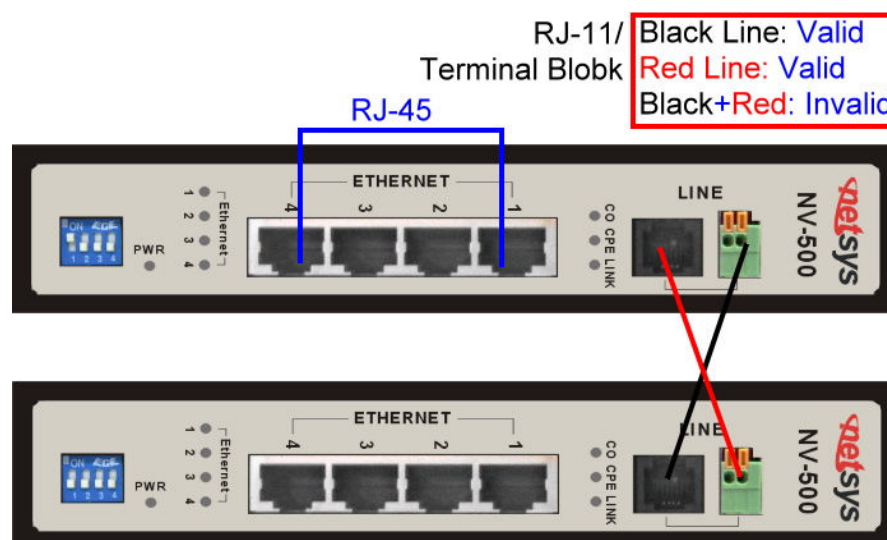

Figure 2.5 NV-500 line ports crossover connection
- ◆ The line port has 2 connectors: RJ-45 and terminal block. It is used to connect from NV-500(CO) using single pair phone cable to NV-500(CPE) bridge side (point to point solution). Take note that NV-500 line port cannot be used at the same time. Either RJ-11 port is connected or terminal block is connected using straight connection (Figure 2.4) or cross-over connection (Figure 2.5)